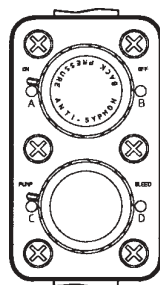

Figure 3.1
- a. While pump is running, turn bottom knob to the “D” position, also labeled “BLEED” (see Figure 3.1).